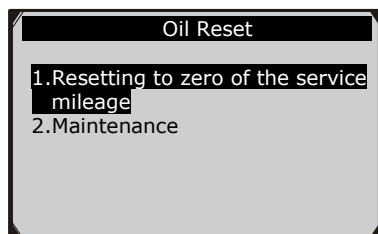

Figure 9.11
- ✓ In the **Oil Reset** menu (Figure 9.11), select **Maintenance** function and press **OK** button. The screen will display the preset maintenance information of the vehicle. The information items vary with different vehicles.